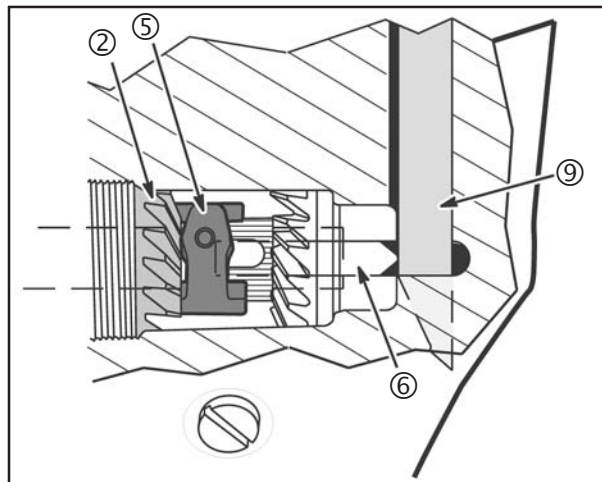

Fig. 6 – Reverse
When the shifter is moved to the REVERSE position, the shift cam (Figure 6) ⑨ is pressed down to its lowest position in the gear case. The highest surface of the cam presses the cam follower ⑥ rearward, engaging the sliding clutch ⑤ to the REVERSE gear ②.